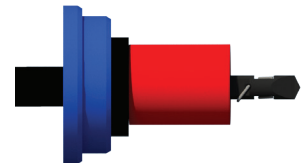

FIGURE 24
2.3.11) For 4"–8" Insta-Valve 250: Attach the corresponding centering ring for the size of the Insta-Valve being installed to the top of the saw mandrel flange using 5/16"–18 x 1.25" bolts through to the top of the centering ring. Ensure a wider portion of the centering ring is positioned away from the mandrel plate and cutter assembly (see Figure 24).